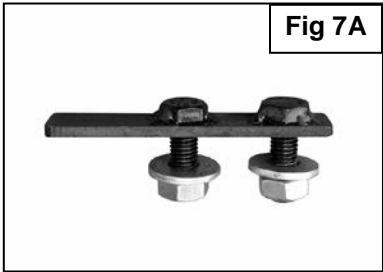

Fig 7A
3. Select (1) 12mm Double Bolt Plate, **(Figure 7A)**. Insert the Bolt Plate into the end of the frame channel, through the (2) holes in the side of the frame and out through the Bracket. Secure the Bracket to the Double Bolt Plate with (2) 12mm Flat Washers, (2) 12mm Lock Washers and (2) 12mm Hex Nuts, **(Figure 7B)**. Snug but do not fully tighten hardware at this time. Repeat this **Step** to install the 12mm x 35mm Single Bolt Plate, **(Figure 8A)**, into the remaining hole in the other side of the frame channel and Bracket, **(Figures 8B & 8C)**.